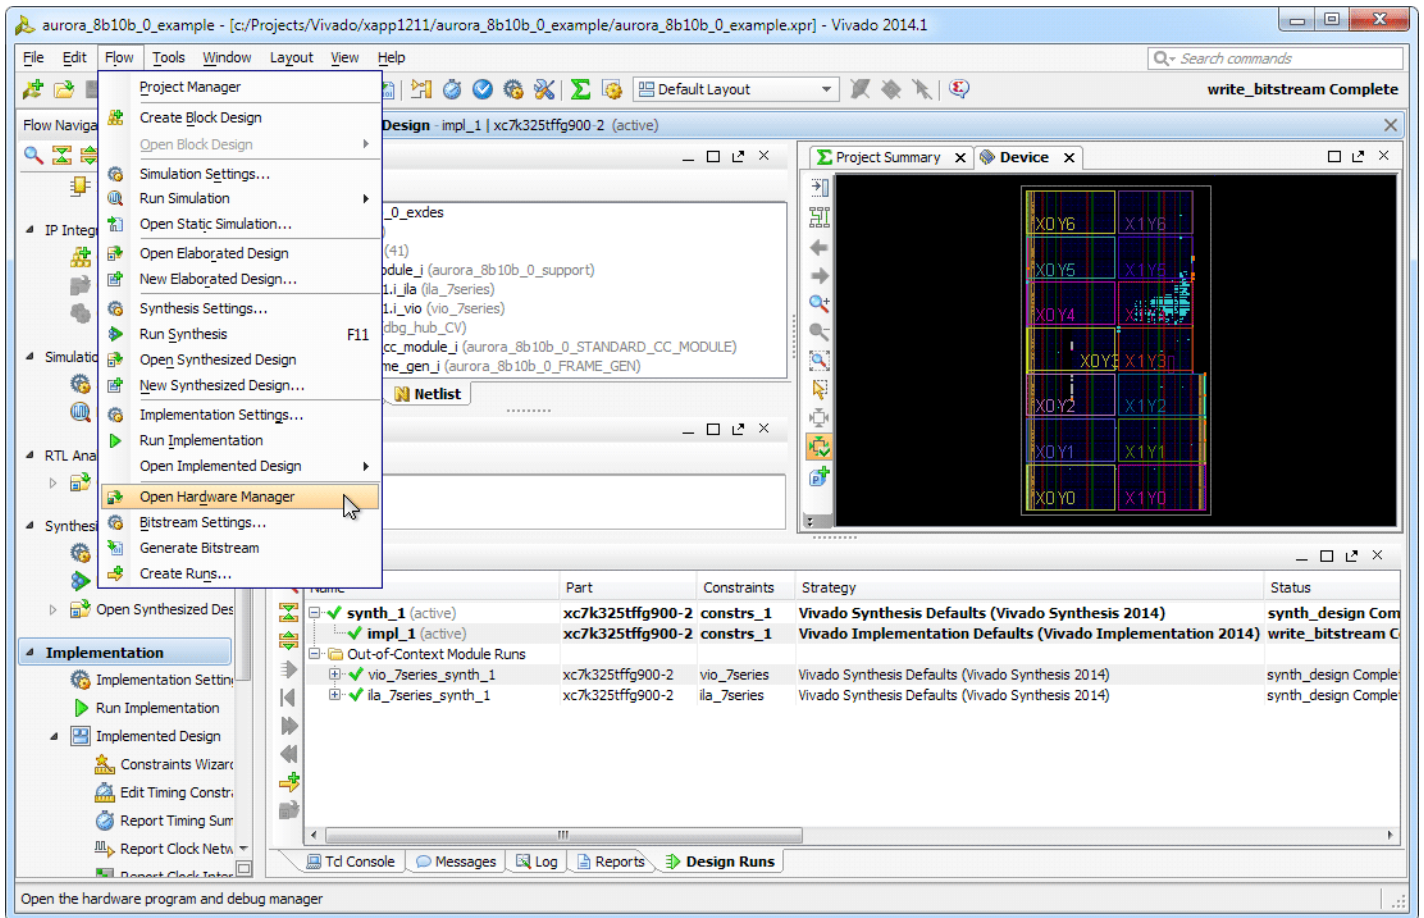

Figure 18: Open Hardware Manager
1. On completion of bitstream generation, select **Flow > Open Hardware Manager** (Figure 18).